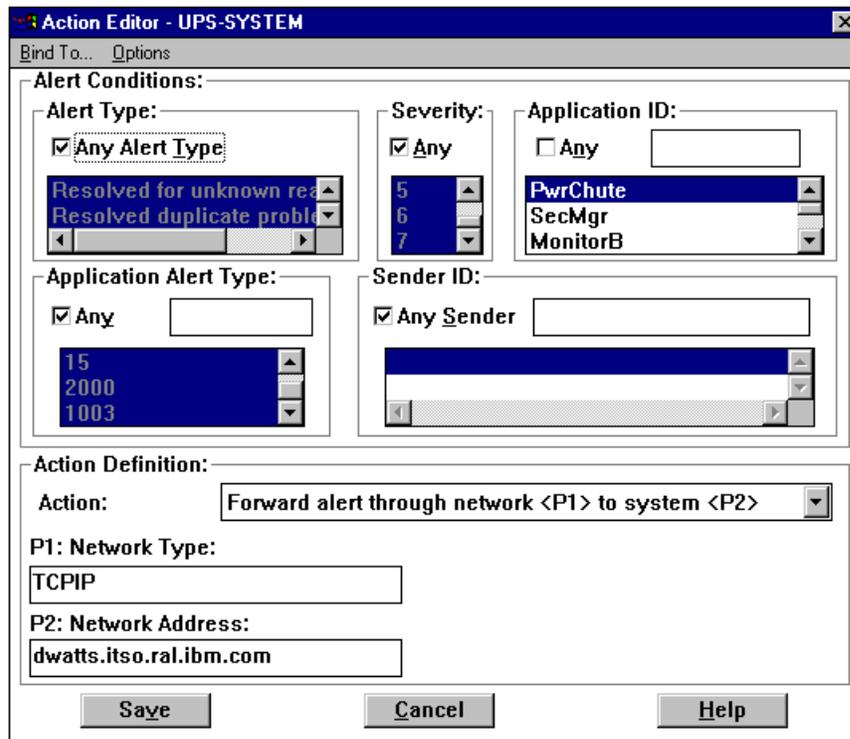

Figure 118. Transferring All Alerts to the Administrator's Workstation
3. For each of the four actions we want, click on **New** and fill in the Action Editor as per Table 22 on page 158. Figure 118 on page 158 shows the settings for the first action, to transfer all alerts to the administrator's workstation: